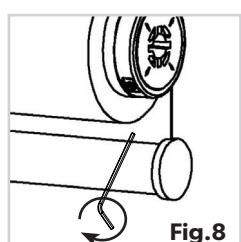

Fig.8
1. Reinsert the set screw into one of the four preset locations on the drum, and use the Allen wrench to turn it clockwise until you can no longer pull the shade down. (Fig.8)
6. Once the desired tension has been achieved, hold the tension adjustment tool in place and use the Allen wrench provided to tighten the set screw by turning it clockwise (to the right). (Fig.8)